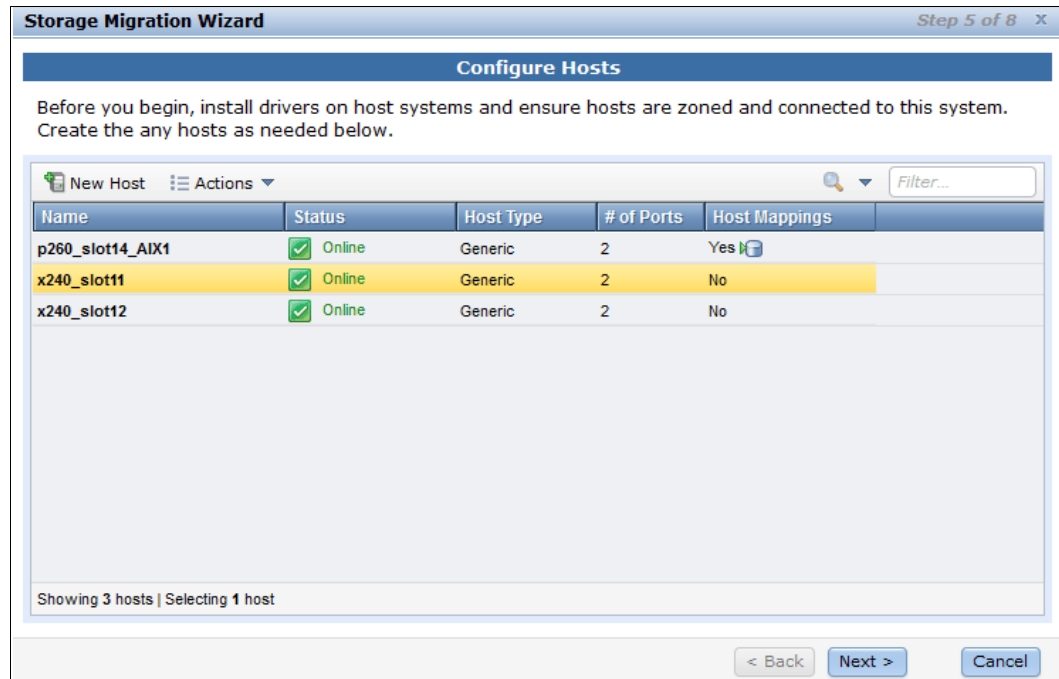

Figure 7-14 Storage Migration Wizard step 5 - Configure Hosts
- Configure the host that needs to access the data after the migration, or create new hosts as needed in Step 5, and click **Next** (Figure 7-14).